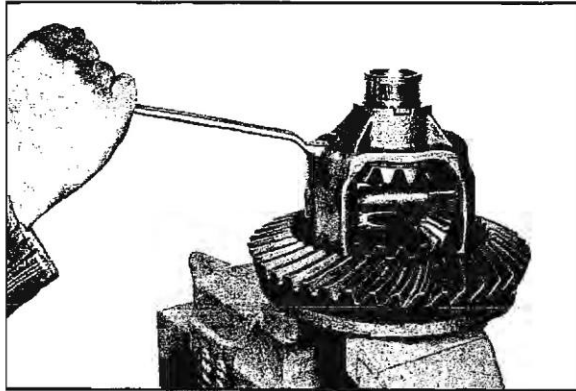

Fig. 4-27 Installing Pinion Shaft Locking Bolt
7. Install pinion shaft and install pinion shaft retaining bolt. Torque to 15 ± 5 lb. ft. (Fig. 4-27).